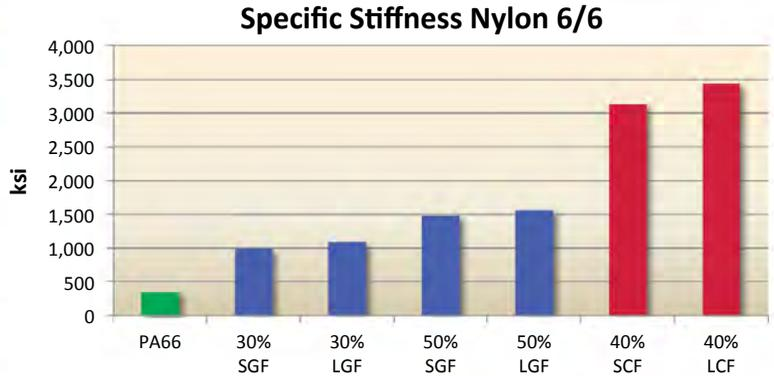

Figure 2. Source: PlastiComp
**Figure 2** illustrates this effect in nylon 6/6, short and long glass fiber loadings of 30% provide a relatively similar 3X gain